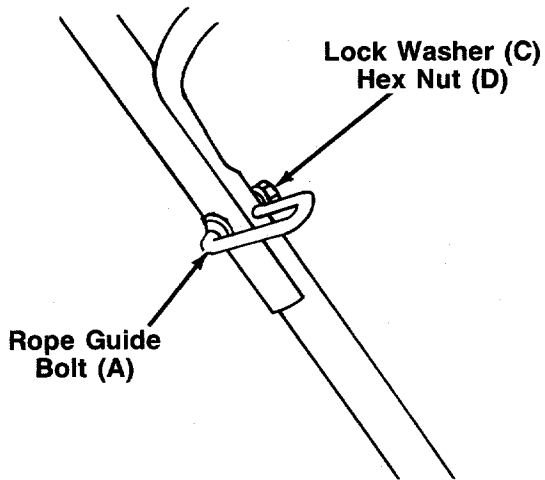

FIGURE 4.
5. Insert the rope guide bolt (A) through the right hand side of upper and lower handle. See figure 4. Secure with lock washer (C) and hex nut (D), finger tight only.